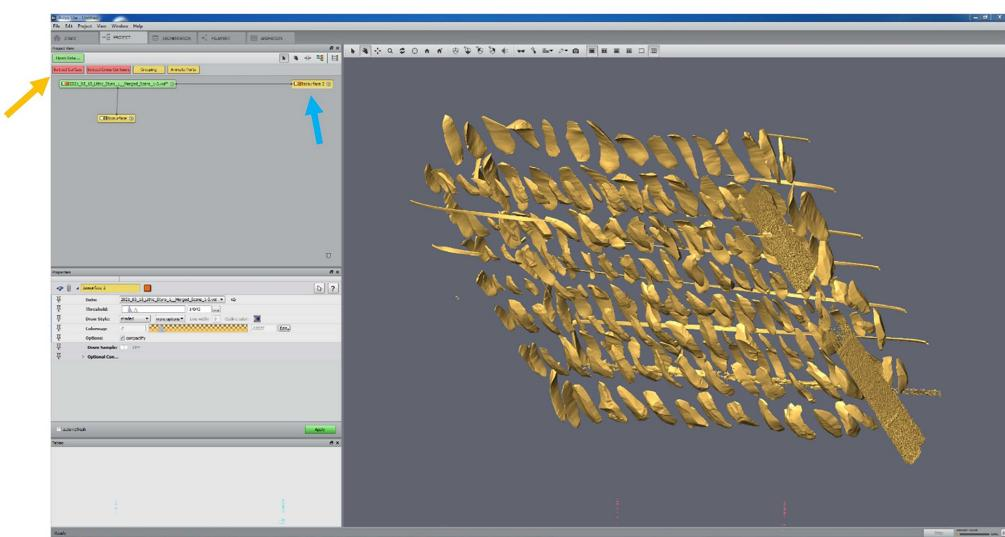

Fig. 19: Extracted surface model of all scanned stone artefacts. Some of the outlying material is still present and can be removed later.
24.1 Click on the newly generated isosurface (here 'Isosurface 2', blue arrow in Fig. 19).
24.2 Click 'Extract Surface' in the options bar above (yellow arrow in Fig. 19).